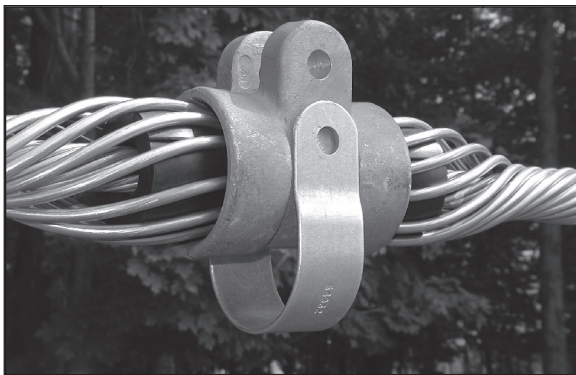
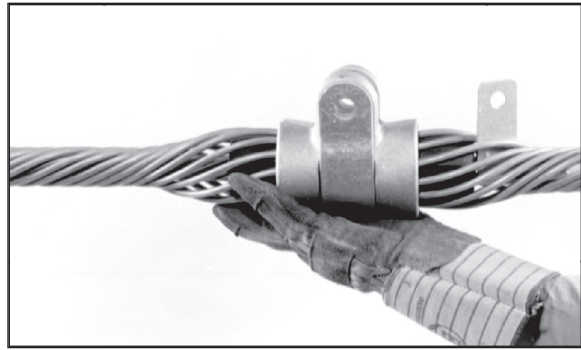

FIGURE 24: SLIDE ALUMINUM STRAP OVER HOUSING HALVES.
FIGURE 25: STRAP TAPPED IN PLACE FOR OPGW
4.07 Place the Suspension Housing Halves on both sides of the neoprene insert and rod assembly with the bolt hole facing up. Slide the Suspension Strap into position around the housing (Figure 24). Tap firmly into place with the heel of the hand (Figure 25).